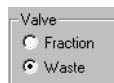

Figure 5-14 Valve Section of Control Panel
3. Divert flow to the fraction container or the waste container by clicking the valve option buttons in the Control Panel (Figure 5-14).